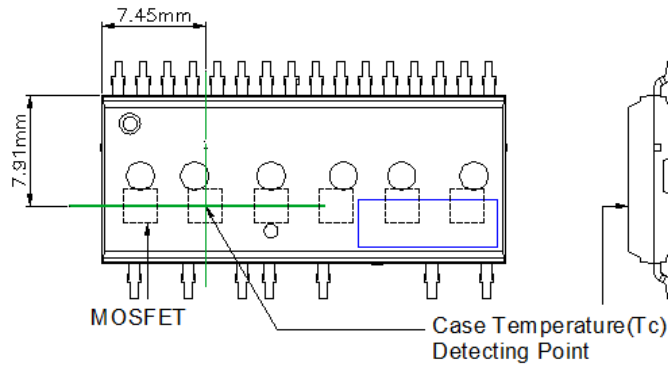

Figure 4. Case Temperature Measurement
- For the Measurement Point of Case Temperature T_C, Please refer to Figure 4.